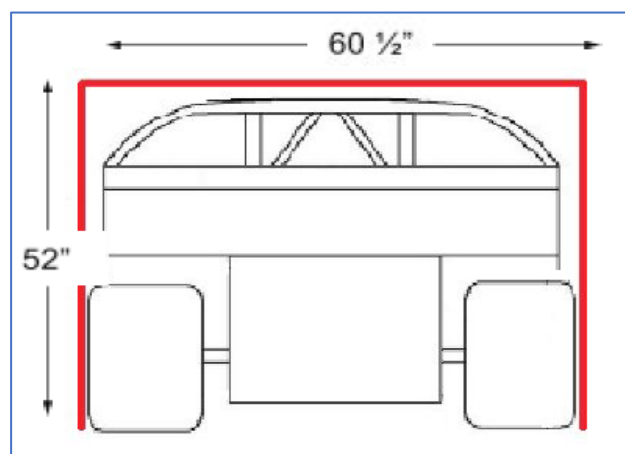

Figure 1
6.8 All cars must pass freely (not touch) through a hoop 60.5 inches wide by 52.0 inches high, in full race trim, weighing 1325 pounds or greater with driver in the car (*Figure 1*).